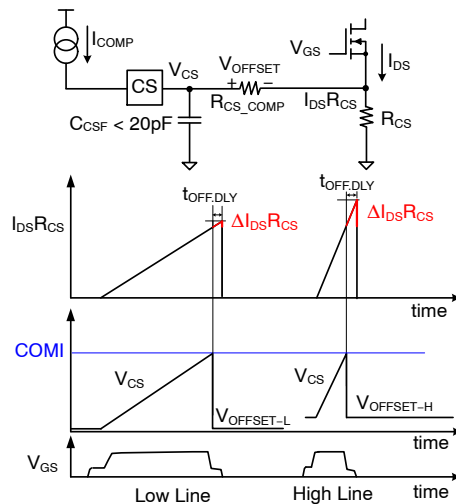
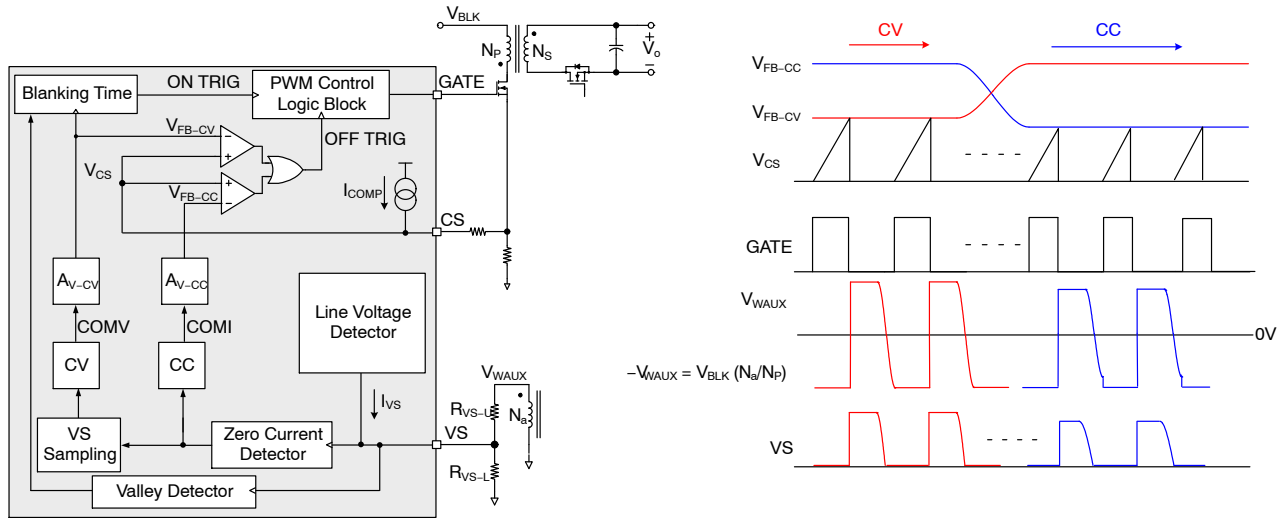

Figure 30. Line Voltage Compensation
Figure 31. Simplified PSR Flyback Converter Circuit
Line information is obtained through the line voltage detector as shown in Figure 31. I_{COMP} is an internal current source which is proportional to line voltage. The line compensation gain is programmed by using CS pin series resistor, R_{CS_COMP} depending on the power FET turn-off delay ($t_{OFF,DLY}$). I_{COMP} creates a voltage drop (V_{OFFSET}) across R_{CS_COMP} . This line compensation offset is proportional to the DC link capacitor voltage (V_{BLK}) and turn-off delay ($t_{OFF,DLY}$). Figure 30 demonstrates the effect of the line compensation.
Figure 31 shows a simplified CV / CC PWM control circuit of the FAN108. The Constant Voltage (CV) regulation is implemented internally with primary-side control. The output signal of compensation (COMV) is scaled down by attenuator A_{V-CV} to generate a V_{FB-CV} signal. This V_{FB-CV} signal is applied to the PWM comparator to determine the duty cycle.
These two control signals, V_{FB-CV} and V_{FB-CC} are compared with a voltage of current sense (V_{CS}) by two PWM comparators to determine the duty cycle. Figure 31 illustrates the outputs of two comparators combined with an OR gate, to determine the power FET turn-off instant. Either of V_{FB-CV} or V_{FB-CC} , the lower signal determines the duty cycle. During CV regulation, V_{FB-CV} determines the duty cycle while V_{FB-CC} is saturated to HIGH level. During CC regulation, V_{FB-CC} determines the duty cycle while V_{FB-CV} is saturated to HIGH level.
For heavy load condition, the blanking time for the valley detection is fixed and primary side peak current will be modulated by voltage level of feedback (V_{FB-CV}). For the medium load condition, the blanking time is modulated as a function of load current such that the upper limit of the blanking frequency varies from $f_{BNK-MAX}$ as load decreases where the blanking frequency reduction stop point is $f_{BNK-MIN}$. For the light load condition, the peak of V_{CS} is fixed by $V_{CS-IMIN}$ (0.175 V) and the energy will be modulated by the function of Pulse Frequency Modulation (PFM), as shown in Figure 31.